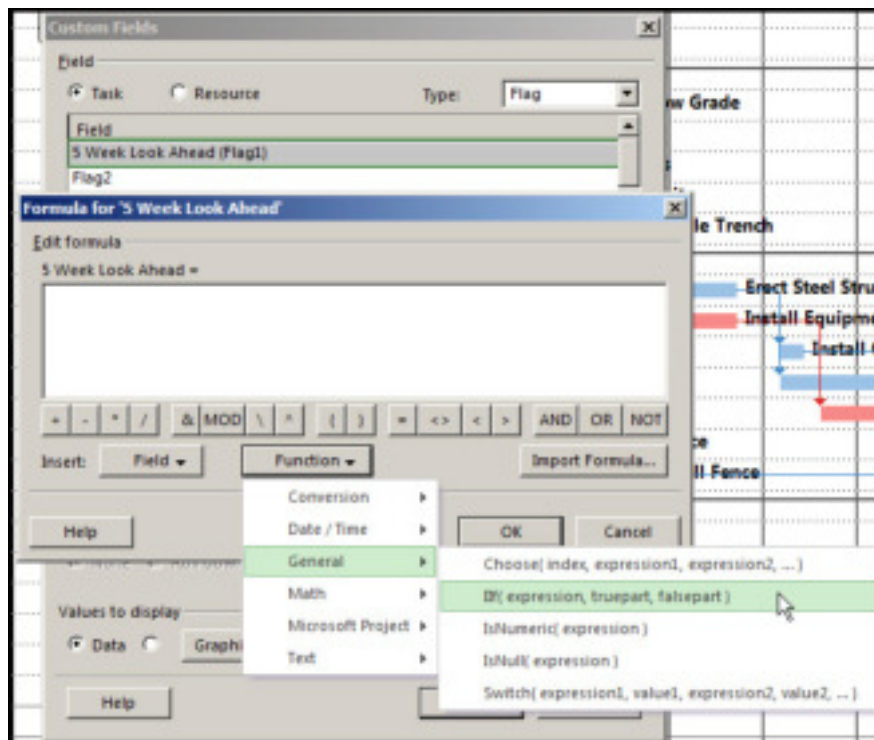

Figure 5
- E. Click the formula button. Select the Function General and select: If(expression, truepart, falsepart), Figure 5.